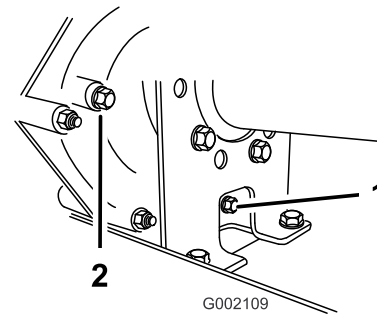
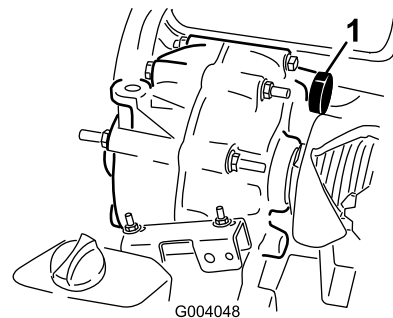

Figure 44
Figure 45
2. Wipe the area around the fill and drain plugs clean with a rag (Figure 44).
4. Remove the fill plug by rotating it counterclockwise (Figure 44).
5. Remove the drain plug by rotating it counterclockwise (Figure 44).
6. Install and tighten the drain plug and gasket into the drain-plug hole of the transmission (Figure 44).
7. Fill the reservoir (Figure 45) through the fill-plug hole with approximately 1.4 L (1.5 US qt) of the specified fluid or until the fluid level in the transmission is even with the bottom of the threads. (Figure 44).
8. Install and tighten the fill plug and gasket into the fill-plug hole of the transmission (Figure 44).
10. Check the fluid level and add more fluid if the level is below the threads of the fill-plug hole (Figure 44).